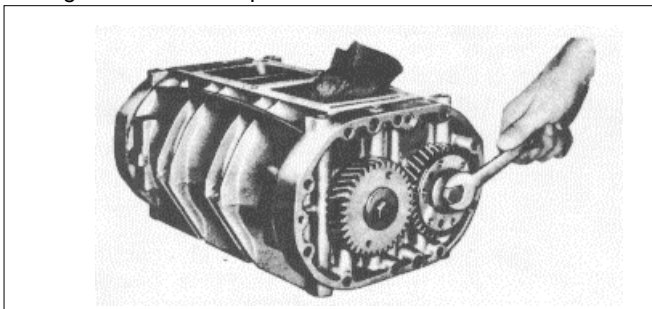

Fig. 16
- (g) Thread a 1/2"-20 x 1-1/4" bolt with a thick washer into the end of each rotor shaft. Place a clean folded cloth between the lobes of the rotors (Fig.16) to prevent the gears from turning. Draw the gears into position tight against the spacers and shims and the bearing inner races as shown in Fig.16.